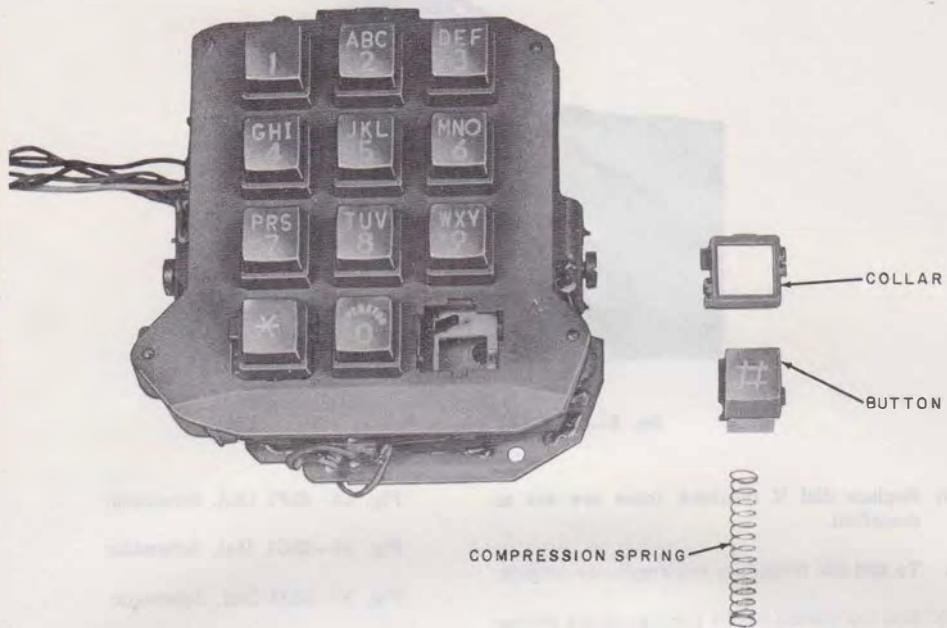

Fig. 7—25W3 Dial with Special Service Button Disassembled
(2) Assemble a button and collar by slipping the collar over the gray end of the button so that the tangs of the collar point toward the white end of the button. The collar and button must be assembled in the relative positions shown in Fig. 7. The tab on the button should be on the right side when looking at the face of the button.
(3) Insert spring into hole in back of button.
(4) Hold the button, collar, and spring assembly between the thumb and forefinger and insert the assembly, spring first, straight into the dial cover plate cavity making sure the two tabs extending from the collar fit into the two recesses at the top and left sides of the cavity. The assembly must be inserted far enough so that the tangs on the collar snap and lock around the projections in the sides of the dial cover plate cavities to hold the button assembly firmly.
(5) The \* button should be installed on the left side of the dial and the # button on the right side of the dial (Fig. 7).